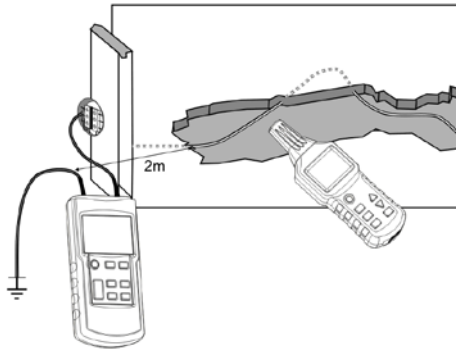

Fig.17
- Connect the transmitter as shown in Fig. 17;